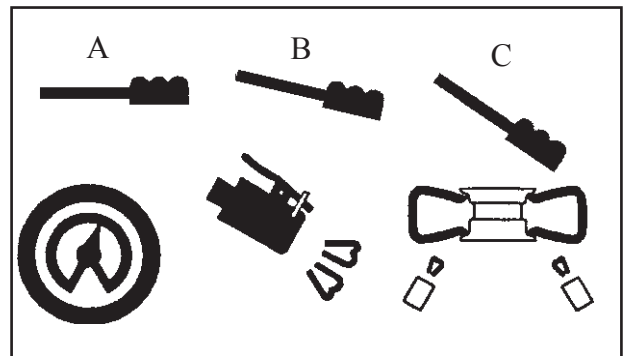

Fig 14
- Press the pedal down to intermediate position (B - Fig. 14).
- If the bead of tyre is not well seated, due to a strong bead, lift tyre manually until the upper bead seals against the rim, then press pedal all the way down (C - Fig. 14). A strong jet of air will be released through the nozzles in the slides and this will help the bead seal.
• Release the tyre; set the pedal in the intermediate position (B - Fig. 14) and continue to inflate the tyre with short jets of air and constantly checking the pressure between air jets until the required pressure has been reached.